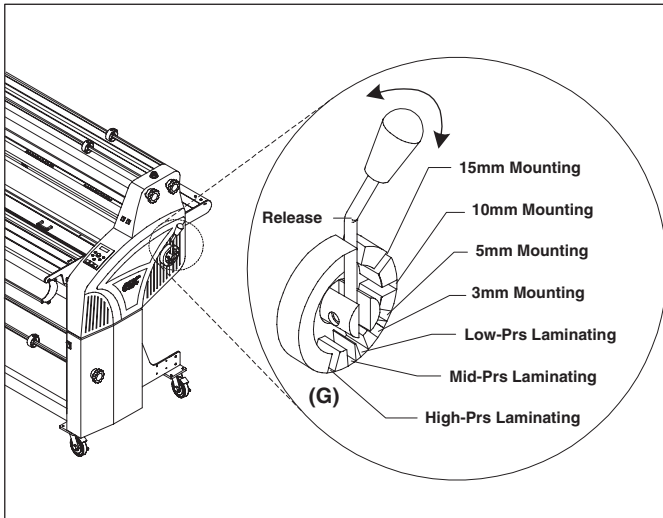

Fig 16
G. ROLLER HANDLE: (Figure 16) The roller handle manually sets the position of the pull rollers while simultaneously electronically setting the main rollers.